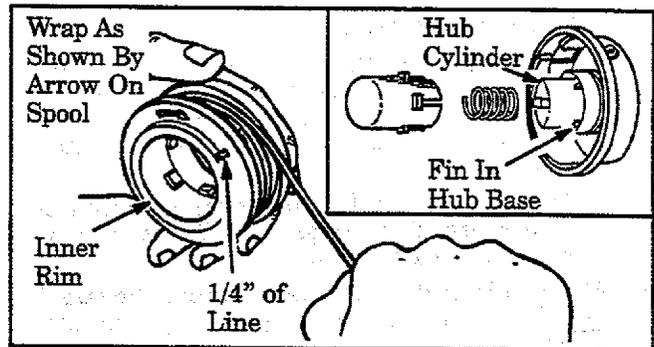

Figure 21
2. Place the spring in the hub cylinder. Figure 21 (inset).
4. Align the slots in the tap button with the fins in the base of the hub. Figure 21 (inset). Push parts together.
- 3.) Insert about 1/4 inch of the end of the line through the hole in the inner rim of the Spool. Figure 21. Allow no more than 1/2 inch of line to extend beyond the rim to avoid interference with tapping action.
- 4.) Wrap the line onto the spool as shown by the arrow. Figure 21.